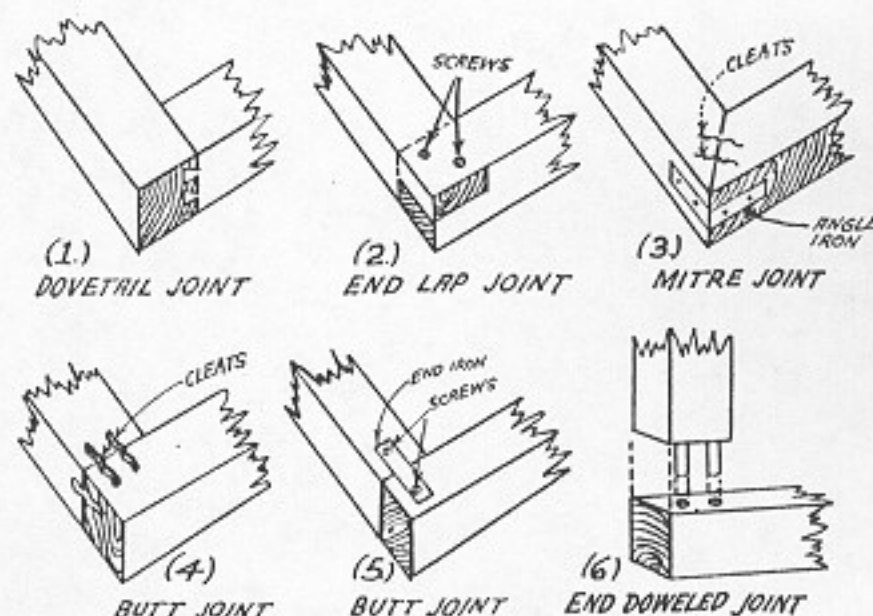
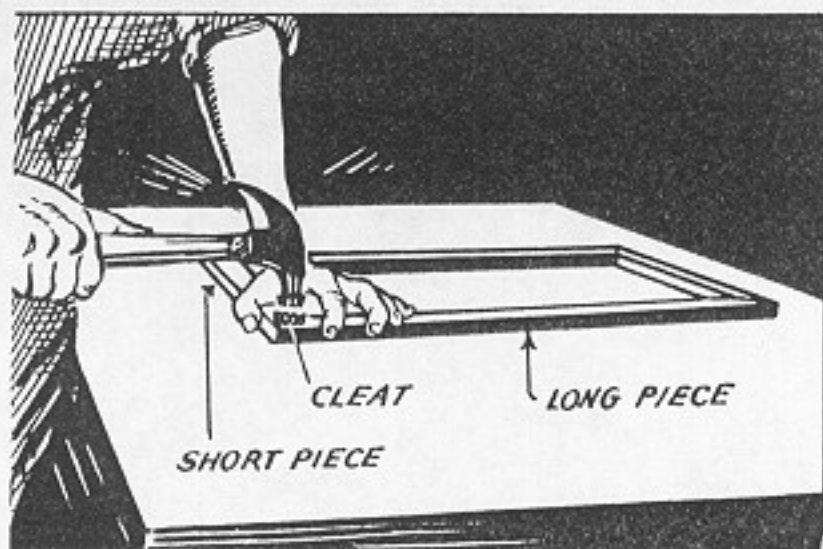

Fig. 24. Types of Joints
Fig. 25. Miter Joint Fastened With Cleats
2. Join one long piece and one short piece at a right angle. Use a miter or butt joint or one of the joints shown in Fig. 24. Fasten the pieces together with cleats, Fig. 25.